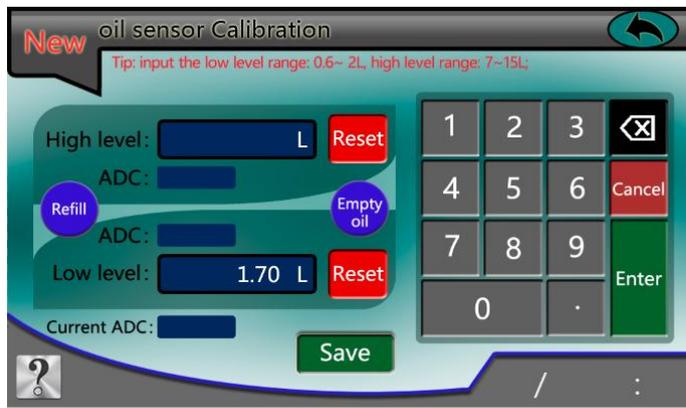

Fig. 37
11.5 Enter the oil volume 1.7L into the edit box of 'Low level'. Wait until the final ADC (ANALOG TO DIGITAL CONVERTER) number shows and press 'Enter'. If a mistake is made, tap 'Reset' and enter the correct number (Fig. 37).
11.6 Now add new oil to the oil tank to high liquid level range (7.0~15.0L). There are two options for oil refilling: one is pour new oil through the manual refill port (Fig. 8), or follow the article 2.2.2 to make the connection, tap 'Refill' in Fig. 37 to pump new oil into the oil tank, take 10.25L as example (Fig. 38).